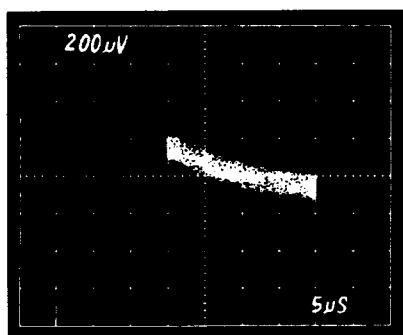

Figure 12. Dielectric Absorption
During T_B , the CONTROL line is high, the AD1154 is in the sample mode and the analog input charges the hold capacitor to +10 V. During T_C the analog input to the SHA is switched to ground, effectively shorting the hold capacitor for the remainder of the sample period. During T_A , the SHA is switched into hold mode and the hold capacitor is open circuited. The dielectric rebound can be observed on the oscilloscope during T_A . Refer to Figure 12.
3. Pick $(R_1 || R_2) \cdot C_1$ to be equal to the approximate time constant (T_{const}) of the dielectric rebound on the oscilloscope (see photo in Figure 12).